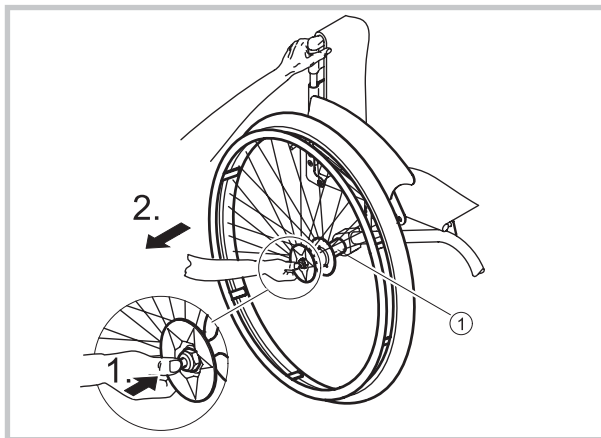

Figure 15
- With the other hand, hold the wheel at the spokes around the wheel hub (see Figure 15).
- Press the axle knob ① with your thumb and pull the wheel out of the adapter sleeve ②.
- Press the axle knob ① with your thumb, keep it pressed.
- Now insert the axle in the adapter sleeve ① of the axle tube until it comes to a rest.